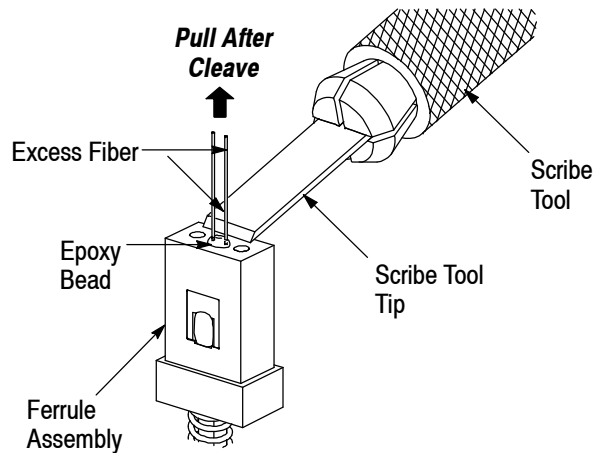

Figure 25
11. Place the scribe tool directly above the epoxy and lightly draw the beveled edge across each fiber. See Figure 25. After scoring the fiber, pull it straight away from the connector to complete the cleaving operation.